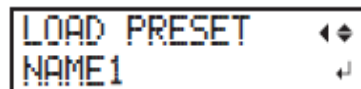

Fig 87: Selecting the Preset Setting Option
Step 2: Press the Up or Down arrow button and select the desired preset option to load previously saved settings (Refer to Fig 87).